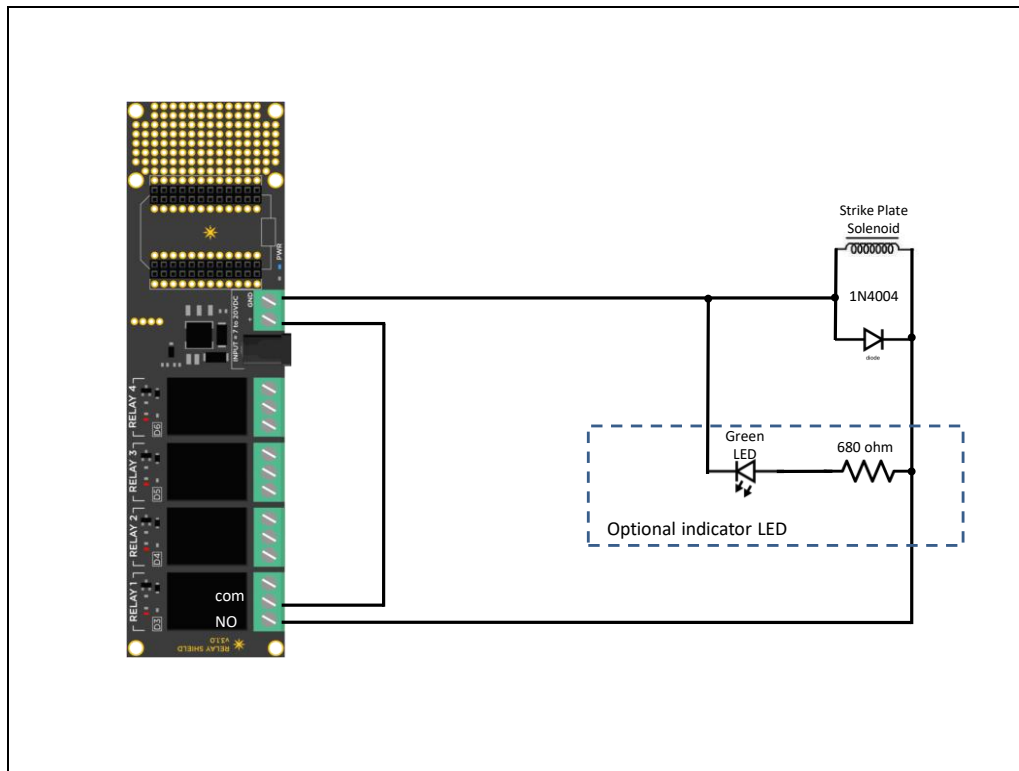
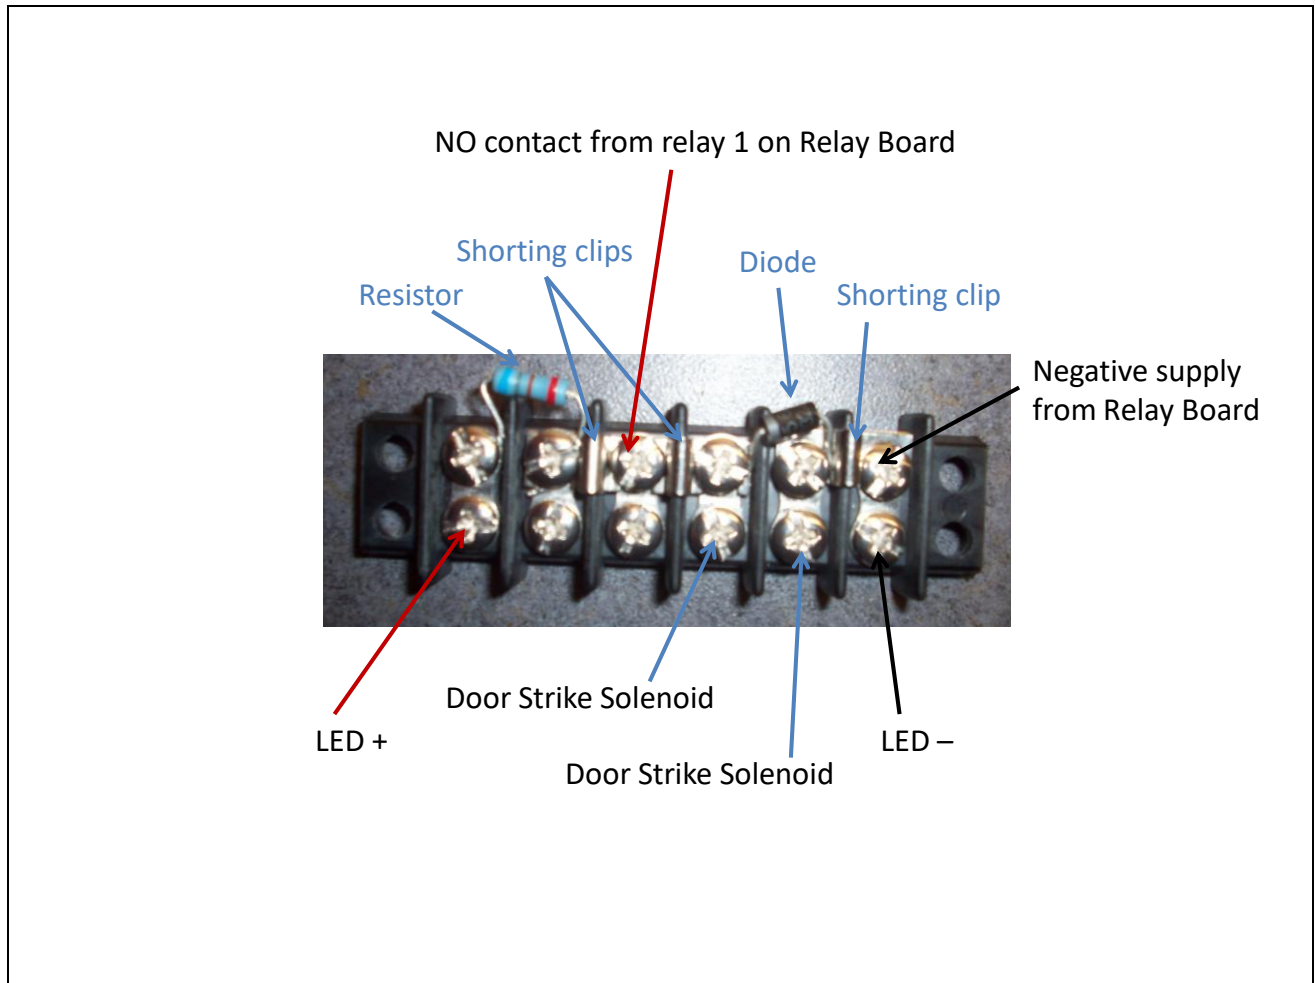
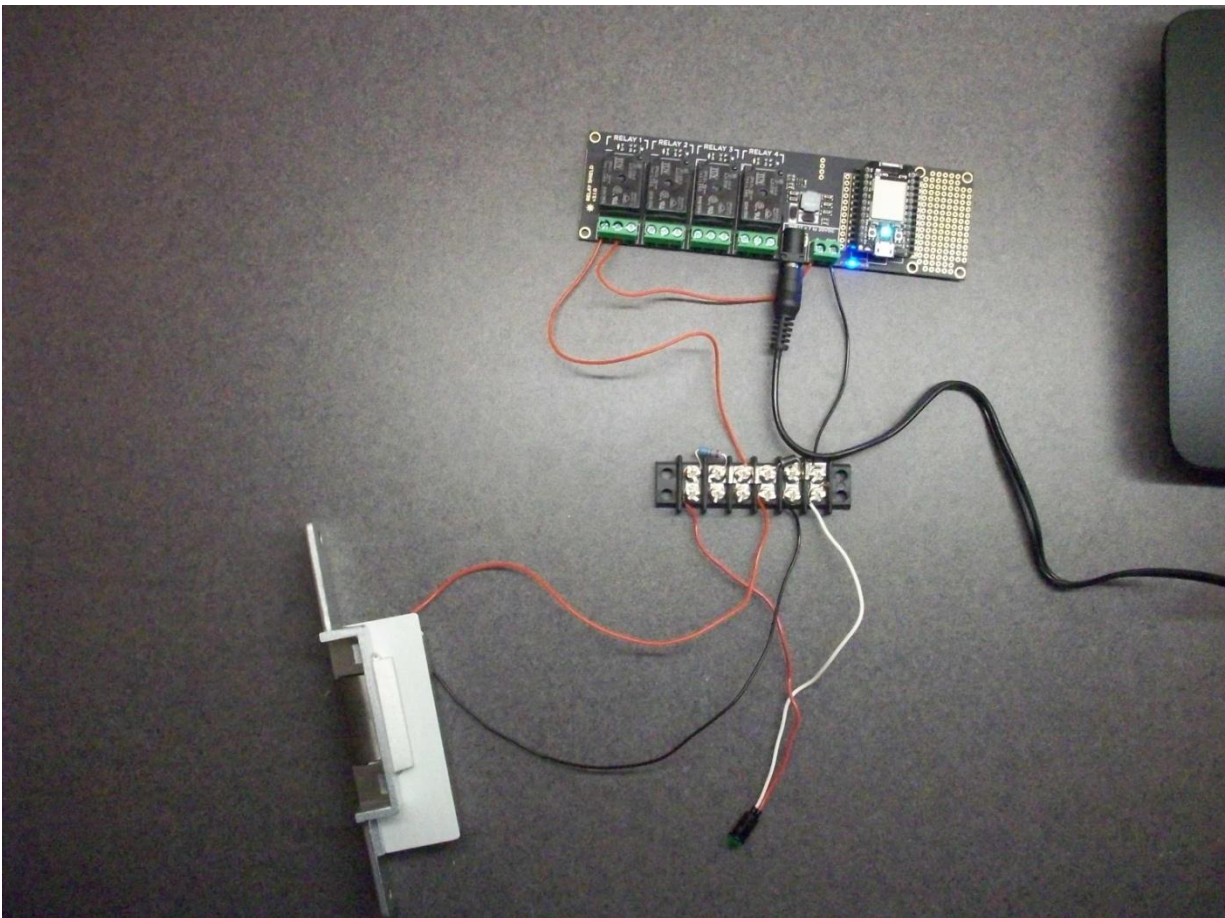

Figure 4.1 Schematic.
Figure 4.2. Terminal Block Assembly.
Figure 4.3. Test Wiring of the Complete Project.
Figure 4.1 shows the schematic diagram for the Open Door hardware.
The solenoid of the electric door strike is wired across the “NO” terminal of relay #1 and ground (GND), as shown on figure 4.1. Therefore, when relay #1 is activated by the Photon, the electric door strike will activate and the door will be unlocked for as long as the relay is activated.
There are three additional components in the circuit of figure 4.1:
Figure 4.2 shows the assembled Terminal Block. Step by step assembly instructions are listed below. The Terminal Block assembly instructions use Shorting Jumpers between columns of the Terminal Block in a way that requires only one wire or lead to be attached to any screw terminal on the Terminal Block. I recommend this for reliability.
- Loosen the next three screws to the left of the two above, on the top of the Terminal Block. Place two shorting jumpers to short these three columns together, as shown in figure 4.2.
- Place the leads of the diode between the second and third terminals at the top of the Terminal Block terminals, as indicated in figure 4.2. *Take special care to place the diode with the silver band on the left side, exactly as shown in figure 4.2.* Make sure that the leads of the diode are underneath the screw terminals and not off to the side. Tighten down the screw terminals mounting the diode.
I recommend wiring up the Relay Board to the Terminal Block, the door strike and the LED at this point for testing, prior to installation in the permanent location for these components. Use short lengths of hookup wire for this purpose so that everything is close together for observation, as shown in figure 4.3, below. Use figure 4.3 as a guide to the wiring, along with figure 4.2 and the schematic in figure 4.1.
When wiring up the circuit per figure 4.3, note the following:
- Connect the solenoid wires to the Terminal Block as shown in figure 4.3 and tighten the screws.